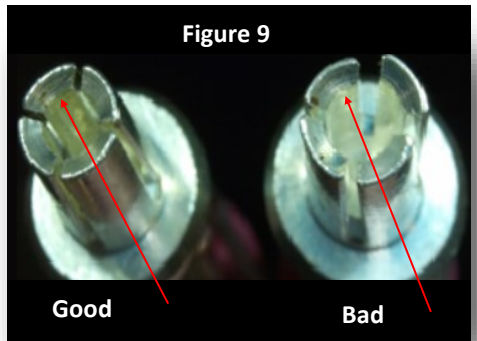

Figure 9
Step 7 ⚠️ Prior to installing contact retainer inspect power socket tines. Tines should not be bent after contacts are seated. (Figure 9)